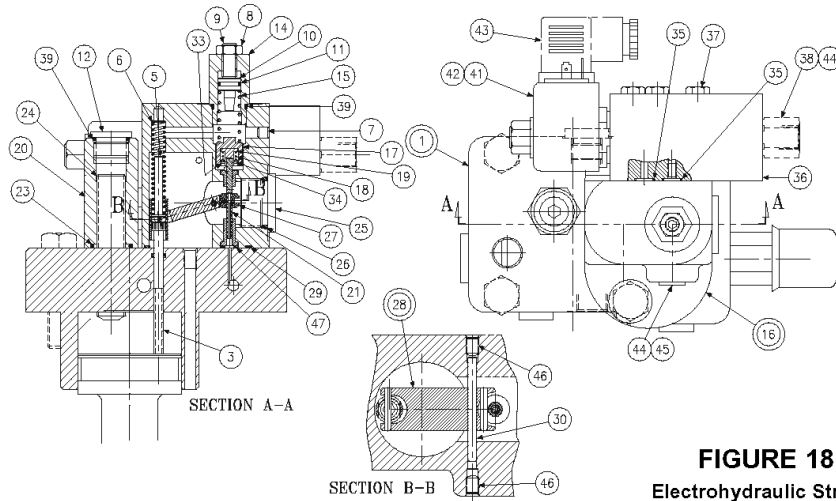
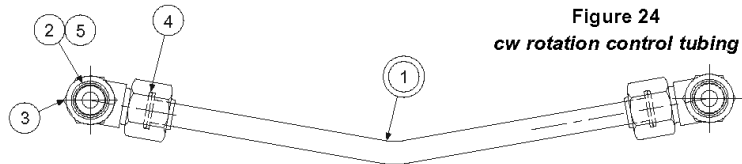

FIGURE 18
Figure 24
PARTS LIST FOR FIGURE 18
1. See Figure 18. Remove 3 screws (37) holding block (36) to body (16).
2. Remove 2 screws holding body (16) to cap assembly (1).
3. Remove all parts from body (16) except pin (30) and arm assembly (28). It is not necessary to remove these parts unless broken or worn. Examine parts for wear or damage.
4. Remove screw (3). Examine head for excessive wear, and body for smooth sealing surface with O-ring.
2. Install spool (6) into bore as shown. Install spring (11) over end of spool.
3. Install O-ring (8) on spring retainer (7). Install retainer (7), screw (13), and nut (14) in plug (4).
4. Install O-rings (10) and (15) on plug (4). Install plugs (4) and (12) in body (1). Install .047", 1.19 mm orifice (19), and .071", 1.98 mm orifice, (20) and plugs (2) and (17). Torque plugs. Install O-ring (21) in cap.
5. Turn screw (13) in until spring retainer (7) contacts spring (11). Turn an additional 1-1/2 turns and lock in position.
8. See Figure 18. Apply thread locking compound on threads of screw (3), lubricate the shank, thread through the cap into the control piston, and torque to 5 lb.*ft., 6.78 N * m.
9. Install minimum stop screw (24) and turn clockwise to stroke pump to full volume. Measure height from control cap to top of screw (3). With control piston at full displacement, dimension must be .74 +/- .03 in., 18.8 +/- 0.76 mm. Back out minimum stop screw (24) till there is no contact with control piston.
10. Press dowel (30) into body (16), through the link (28), to 1/4, 6.35 mm below surface, apply hydraulic sealant to threads of screws (46) and install over dowel (30).
11. Press spool (21) into retainer (19). Caution: do not use excessive force. Place spool/retainer assembly into spool (17) with spring (18) and washer (34). Secure with retaining ring (33).
12. While sleeve (27) is engaged into dowel on link (28), slide above spool assembly into bore of body (16), and through sleeve (27). Spool (21) must move freely and easily at all positions of the link (28).
13. Install proportional valve (41) in block. Torque to 20 ft.*lbs., 27 N m.
15. Assemble all other components into body (16) per above drawing. Torque the plug (12).
16. While spring retainer is engaging clevis pin (5) under dowel of link (28), slide the other opening of spring retainer over the top of the screw (3). Attach body assembly (16) to cap (1) with two screws and torque to 75 lb.*ft., 102 N m.
17. Install tubing assembly (Figure 24, 25).
Ref. Figure 18
PARTS LIST FOR FIGURE 24